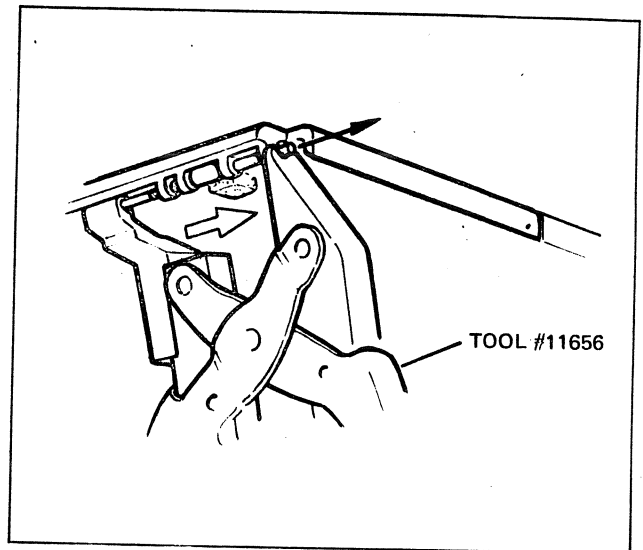

FIGURE 4-34 HINGE PIN REMOVAL TOOL
6. Use Special Tool #11656 and remove the shutter-hinge-bracket-to-short-cover hinge pins. See Figure 4-34.